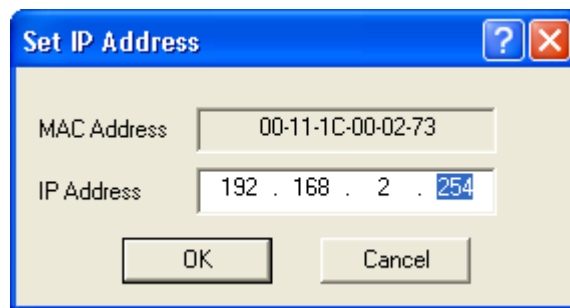

Figure 8: Set IP Address Dialog
- **Set IP Address Dialog**: This dialog, shown in Figure 8, is used to configure or change the IP address of a GigE camera. If there is a BOOTP server on the network, LYNX GigE cameras may already have been given an IP address. It is the user's responsibility to make sure each GigE camera has a unique IP address.